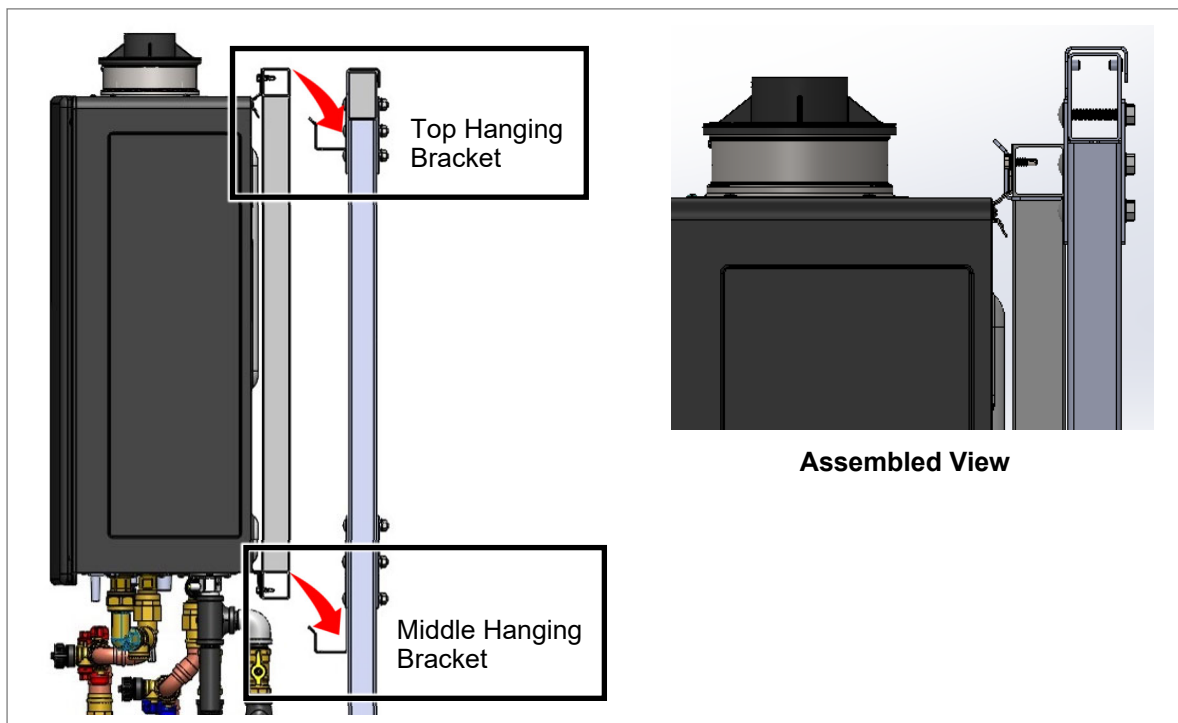

Fig 12. Hang TRX onto Rack
10. Lift the TRX assembly and place into the Top and Middle Hanging Brackets (Fig 12).